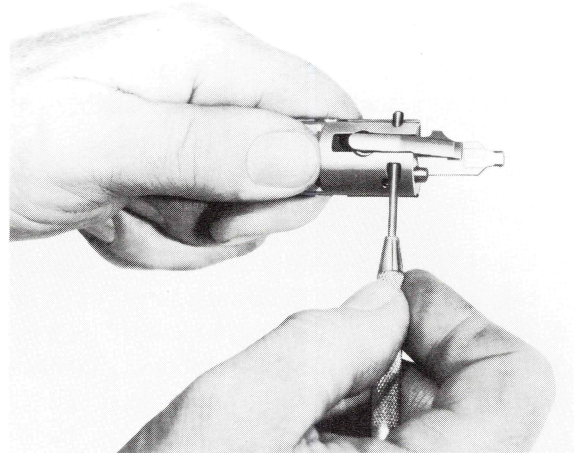

Fig. 12
- Press out the cylindrical pin (16) and remove the locking catch (15) together with its compression spring (14) (Fig. 12).